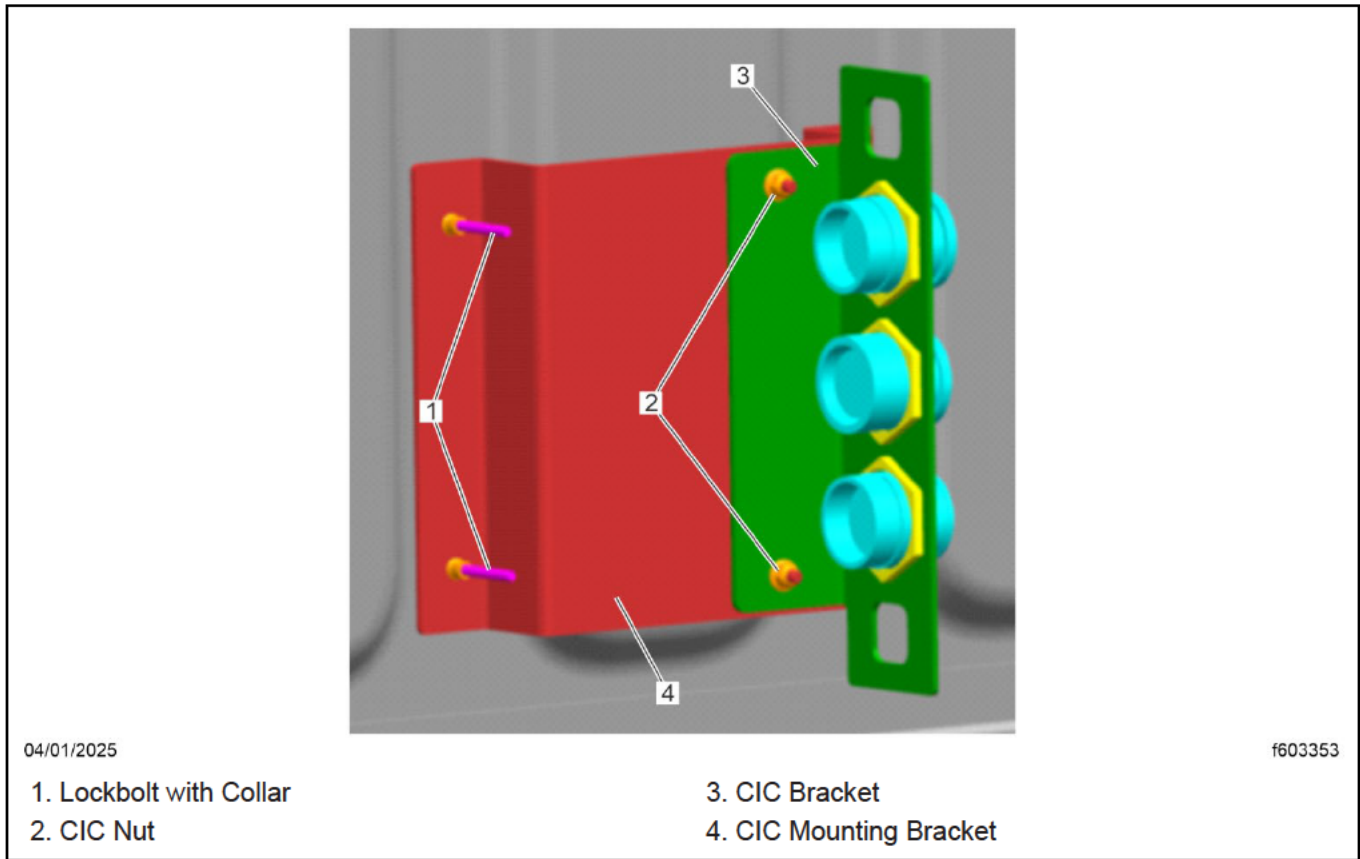
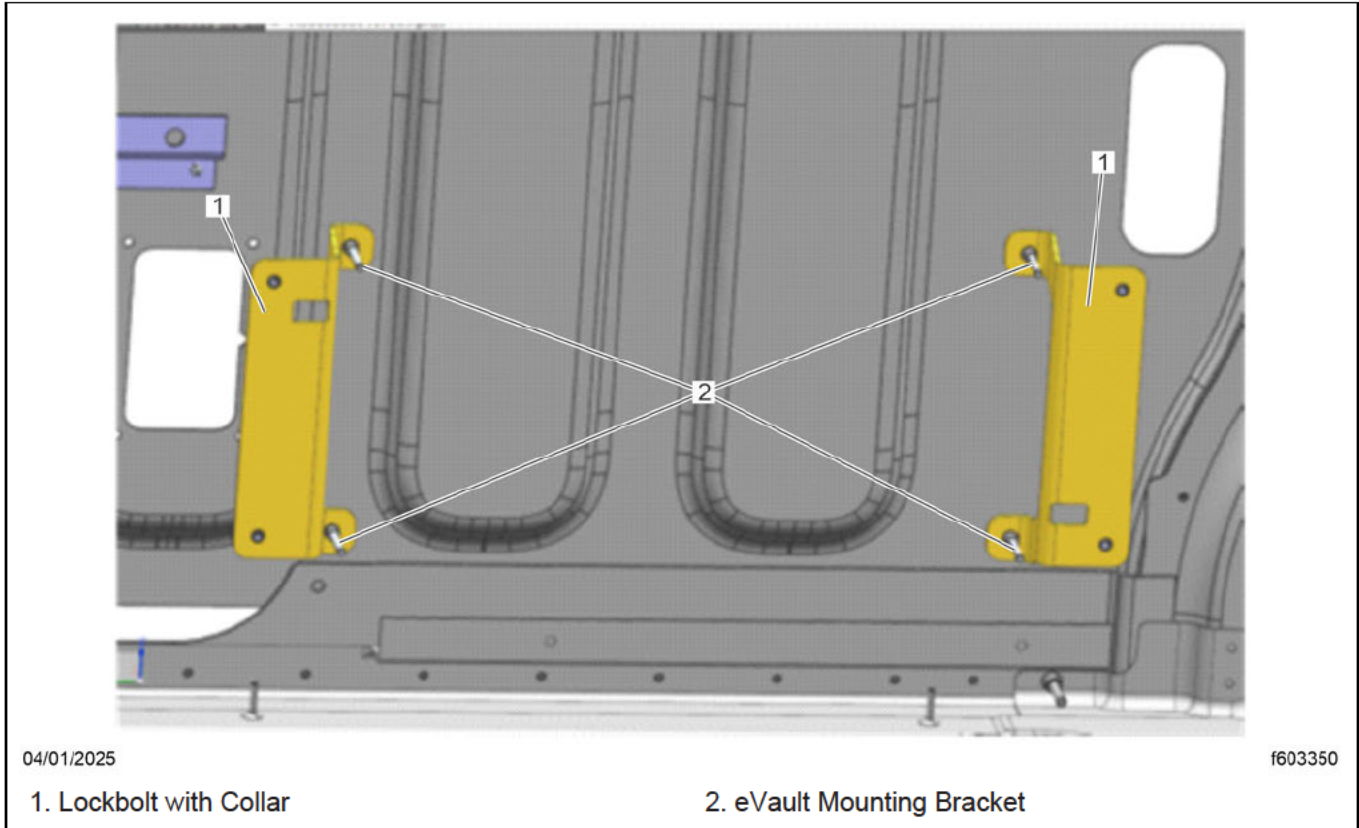

Fig. 10, CIC Mounting Hardware
Fig. 11, eVault Mounting Hardware
2. Install the eVault and Customer Interface Connectors (CICs) mounting brackets behind the upholstery. See Fig. 10 and Fig. 11.